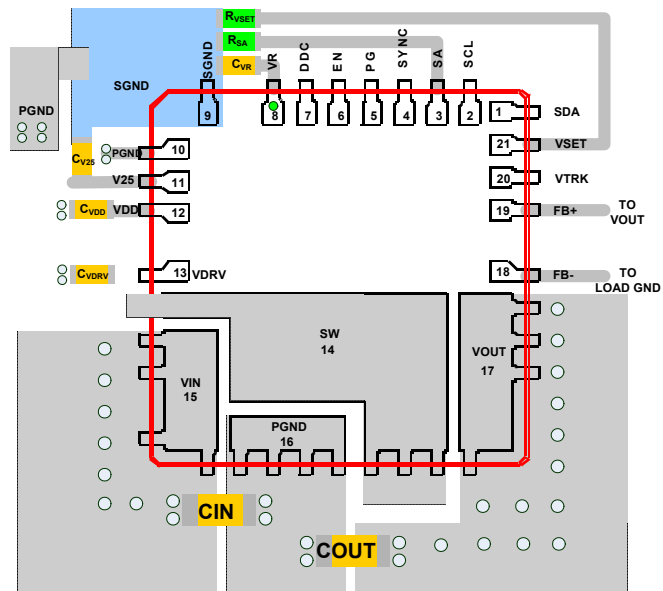

FIGURE 21. RECOMMENDED LAYOUT
- Establish a separate ground plane for SGND (Pin 9) and PGND (Pin 10 and Pin 16) and connect them at a single point as shown in Figure 21. CV25, CVR, RSA, and RVSET are placed on the bottom layer and are connected to a single SGND plane that is connected to the PGND at a single point. This will help to block the high frequency noise from entering to the controller through SGND.
- Place a high frequency ceramic capacitor between (1) VIN and PGND (Pin 16), (2) VOUT and PGND (Pin 16), and (3) bypass capacitors between VDRV, VDD, V25, VR, and the ground plane, as close to the module as possible to minimize high frequency noise. High frequency ceramic capacitors close to the module between VOUT and PGND will help to minimize noise at the output ripple.